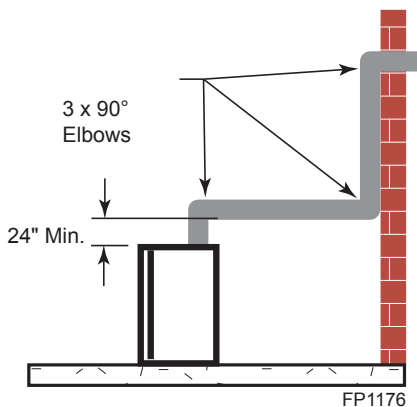
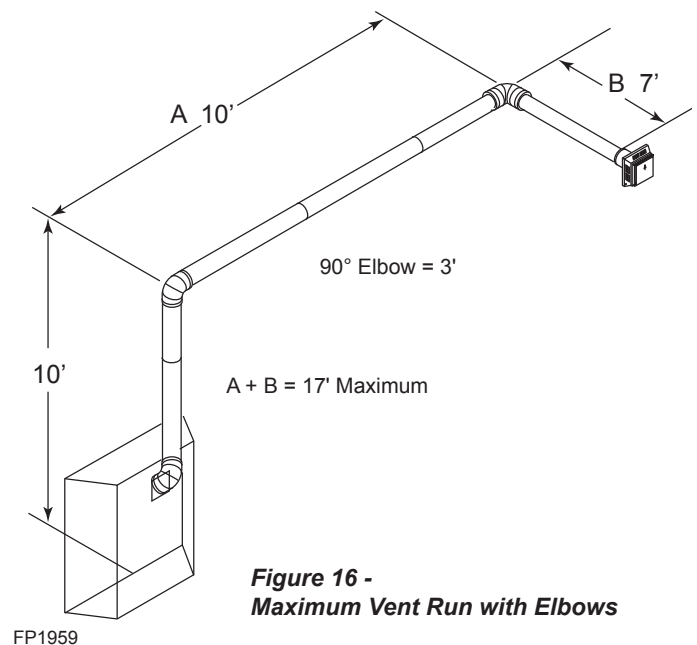

Figure 14 -
Figure 16 -
- The maximum number of 90° elbows per side wall installation is three (3). *Figure 14*
- If a 90° elbow is used in the horizontal vent run (level height maintained) the horizontal vent length is reduced by 36". *Figures 14 and 15*. This does not apply if the 90° elbows are used to increase or redirect a vertical rise. *Figure 16*
In *Figures 16 and 17* dimension A plus B must not be greater than 17' (5.2 m).